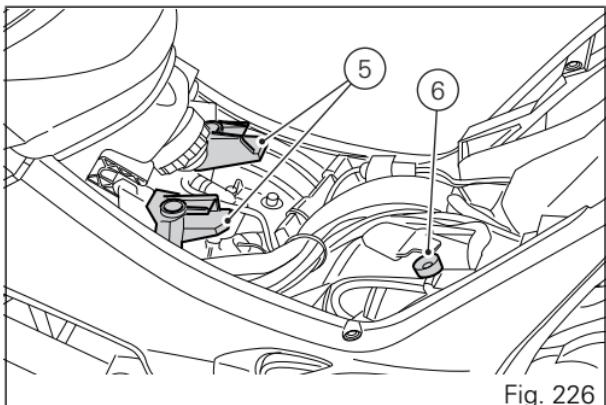

Fig. 226
Position rider seat (4) front end, with slots (7), into guides (5, Fig. 226) and engage pin (6, Fig. 226) into its housing (8).
Make sure that pin (6, Fig. 226) is engaged in its housing (8).